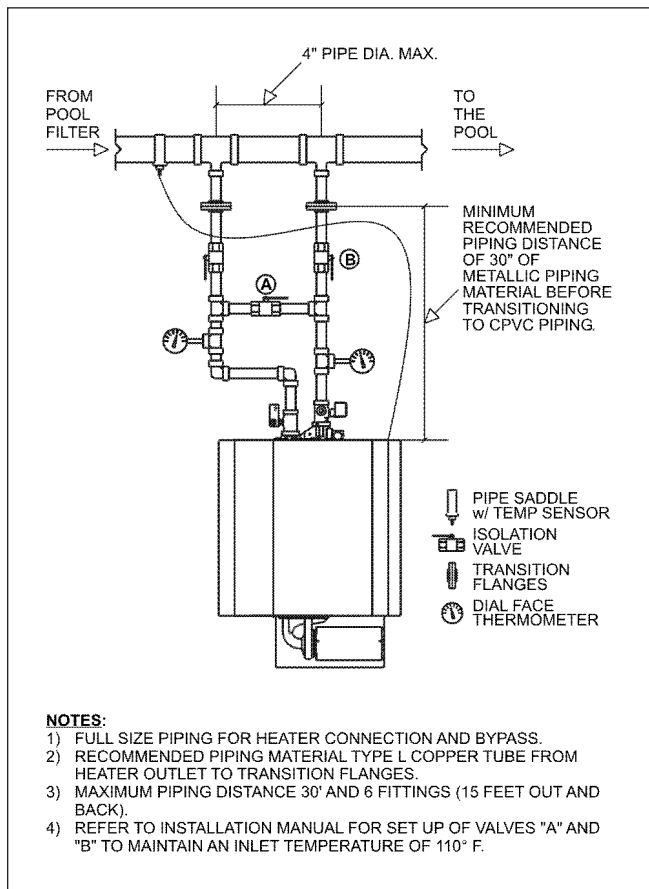

Figure 10. Heater Piping Arrangement.
In addition to the bypass valve “B” and outlet valve “A” shown in Figure 10, an inlet valve “C” should be provided so that the heater can be readily isolated for service. All valves should be butterfly or ball style, not gate valves. For spas application see Section 3.9.
All MT series boilers, 500-1825 models, must be installed with bypass piping. Please use Figure 10 as your guide to plumb the bypass. For spas see Section 3.9.
All models are supplied with integral pumps. These pumps are sized for the pressure drop through the heat exchanger, 30' of piping, and through the bypass piping as shown in Figure 10.
All models must be installed in the primary/secondary arrangement shown. The boiler loop piping must tee into the filter loop piping with the inlet and outlet connection spaced a maximum of 4 pipe diameters apart (see Figure 10).
A temperature sensor with 15 feet (5m) of cable and an immersion well assembly are supplied with the boiler. These must be installed in the field. Refer to Figures 10 through 11.
of the boiler inlet tee as close to the boiler as possible (see Figure 10). **DO NOT INSTALL in boiler loop piping or downstream of the boiler inlet tee.**
(Reference Figure 10)
2. Since outlet temperatures can approach 140°F (60°C) units **must** be piped in a Primary/Secondary style similar to that shown in Figure 10.